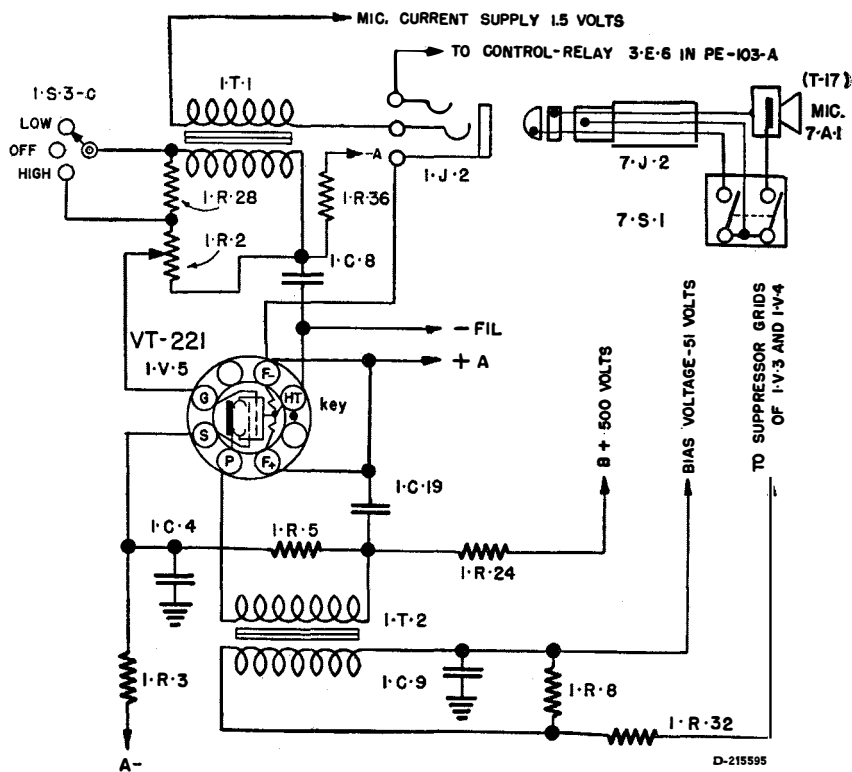

FIG. 15. AUDIO AMPLIFIER AND MODULATOR CIRCUIT
a. Audio Amplifier and Modulator Circuit:—(FIG. 15)
- (1) The microphone (7-A-1) and switch (7-S-1), are contained in a single unit.